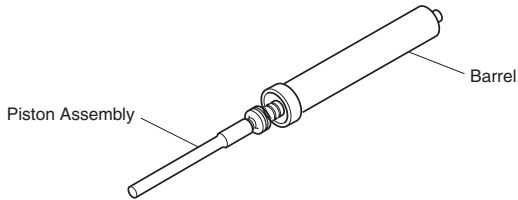

Figure 4 - Removing Piston Assembly from Barrel
6. Remove piston assembly from barrel (see Figure 4).